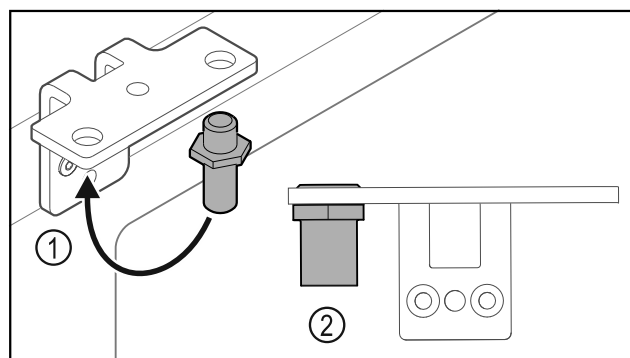

Fig. 35
- Put the pin back into the hinge Fig. 35 (1).
- Tighten the pin Fig. 35 (2) to a **torque of 12 Nm**.